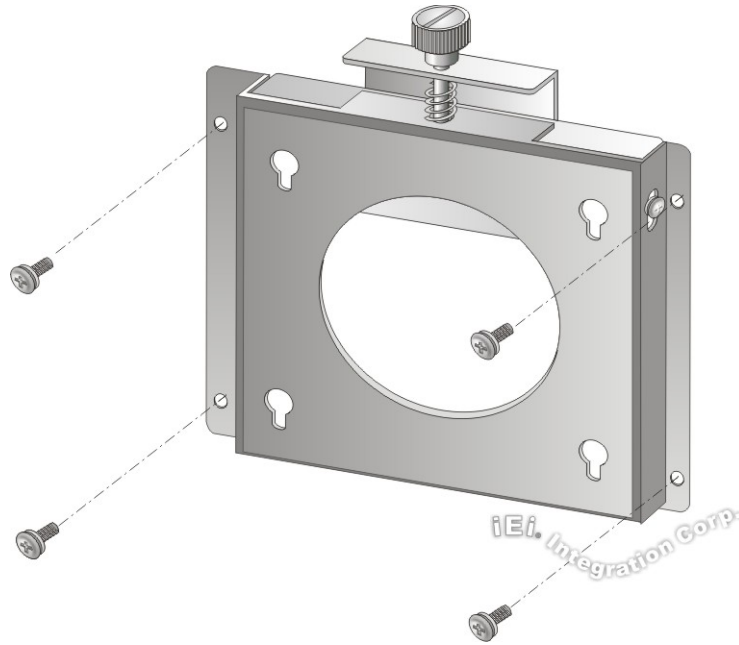

Figure 3-16: Wall-mounting Bracket
Step 5: Secure the mounting-bracket to the wall by inserting the retention screws into the four pilot holes and tightening them (**Figure 3-16**).